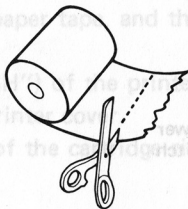
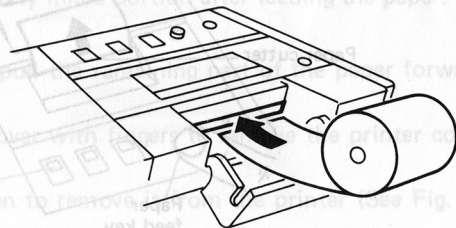

Fig. 2
Fig. 3
- (3) Insert the leading edge of the roll of paper into the opening in the paper tape compartment. (Fig. 2) (Fig. 3)
- (4) Next, push in the corners marked "PUSH" of the cartridge ribbon to remove it from the printer (See Fig. 2). Remove the cartridge ribbon.